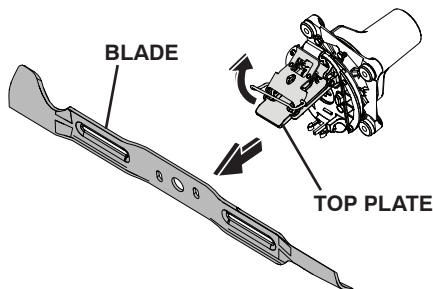

Fig. 32
- Open the top plate and remove blade. (See Fig. 32.)